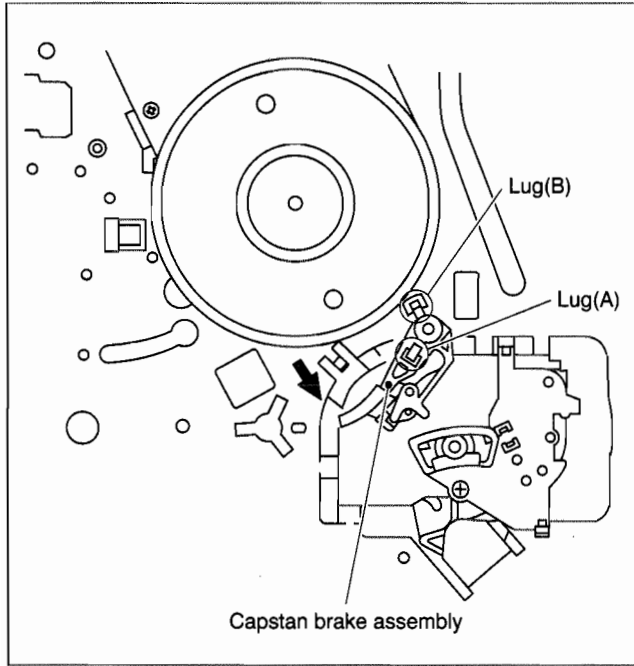

Fig. 2-2-35
- (1) Move the lug (A) of the capstan brake assembly in the arrow-indicated direction so that it comes into alignment with the notch of the main deck. (See Fig. 2-2-35.)
- (2) Remove the lug (B) of the capstan brake assembly from the main deck and remove the capstan brake assembly.